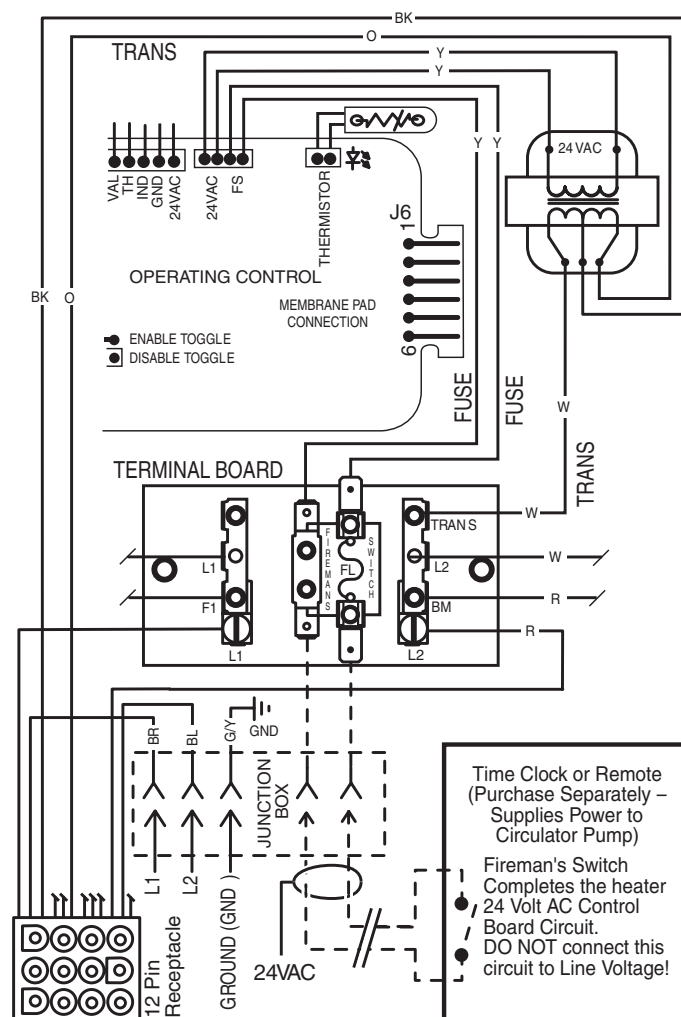

Figure 16.
- Connect wires between the Fireman's Switch terminals on the heater and the relay. Connect wires from the controller or timer to the Fireman's Switch. Controller, timer or relay should be sized to handle 24VAC at 0.5 Amp (because it will be completing the 24VAC control board circuit on the heater as shown in Figure 16). DO NOT apply line voltage to the Fireman's Switch terminals. Use 18 gauge wire with a minimum 1.2 mm (3/64 in.) thick insulation rated for a temperature rise of at least 105° C.